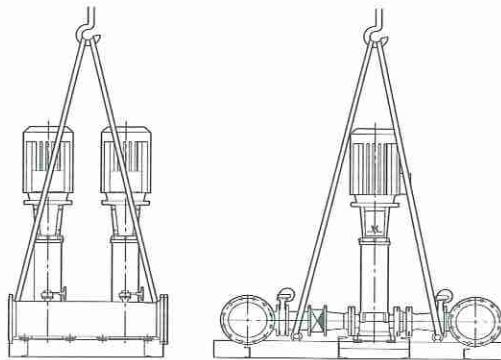

Fig. 4 Correct lifting of Hydro MPC XL
Hydro MPC booster systems with CR 120 or 150 pumps have eyebolts in the base frame. See fig. 4.
**Do not lift the booster system by the manifolds, but according to fig. 4.**